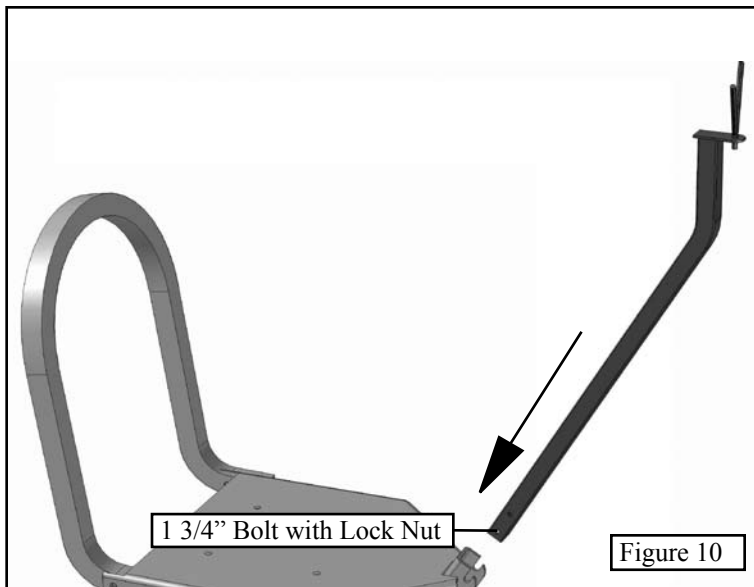

Figure 10
Step 7. Position the Gun Rest as shown in **Figure 10**. Slide the Gun Rest into the bracket and line up the holes. Secure with one 1 3/4" bolt and lock nut. Do not overtighten as this connection is designed to pivot.